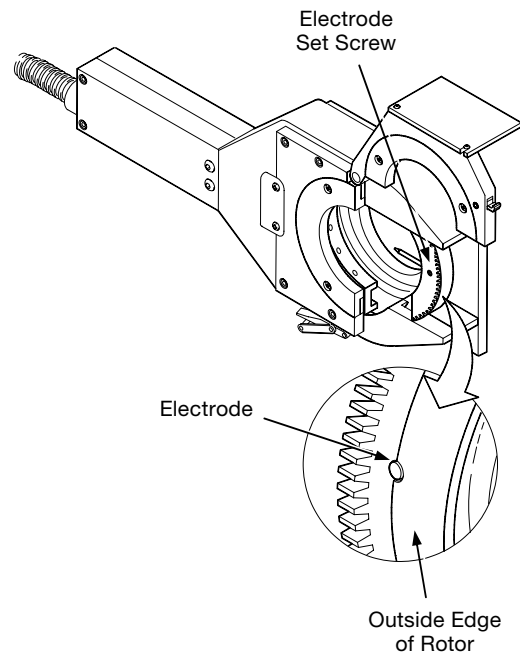

Figure 6 Electrode Installation
1. With the weld head in the open position, press **JOG** or **ELECTRODE CHANGE** on the operator panel until the tungsten electrode is in the position shown in Figure 6.